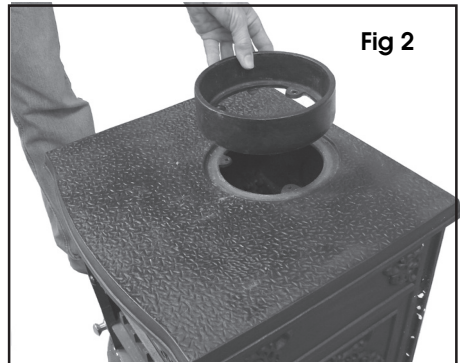

Fig 2
3. Sit the stove upright and attach the flue adaptor as shown in Fig 2 using the screws supplied. Ensure the fireproof gasket is correctly seated in the base of the flue adaptor.